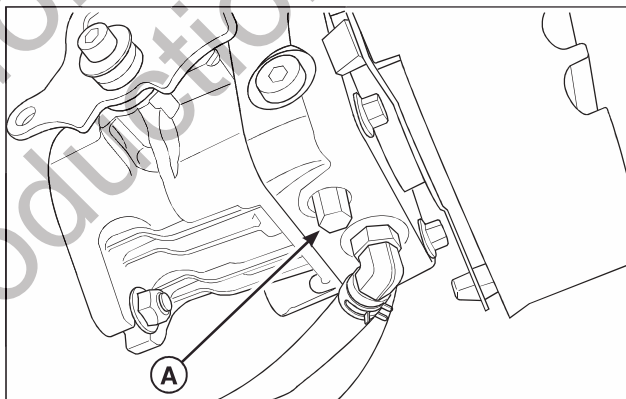

Figure 3. Hydraulic System By-Pass
3. Locate the hydraulic release valves (A, Figure 3) on the bottom side of the hydraulic pumps.